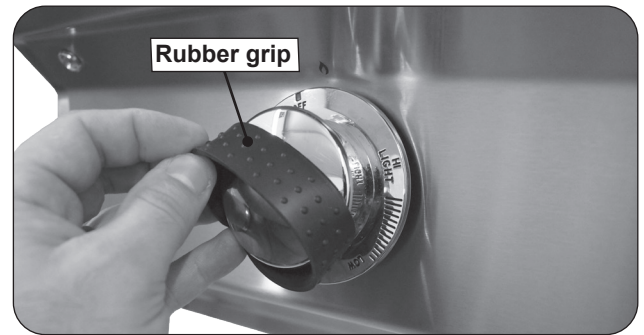

Fig. 36-1 Rubber grips removal
2. Remove the rubber grip from a control knob (see Fig. 36-1).